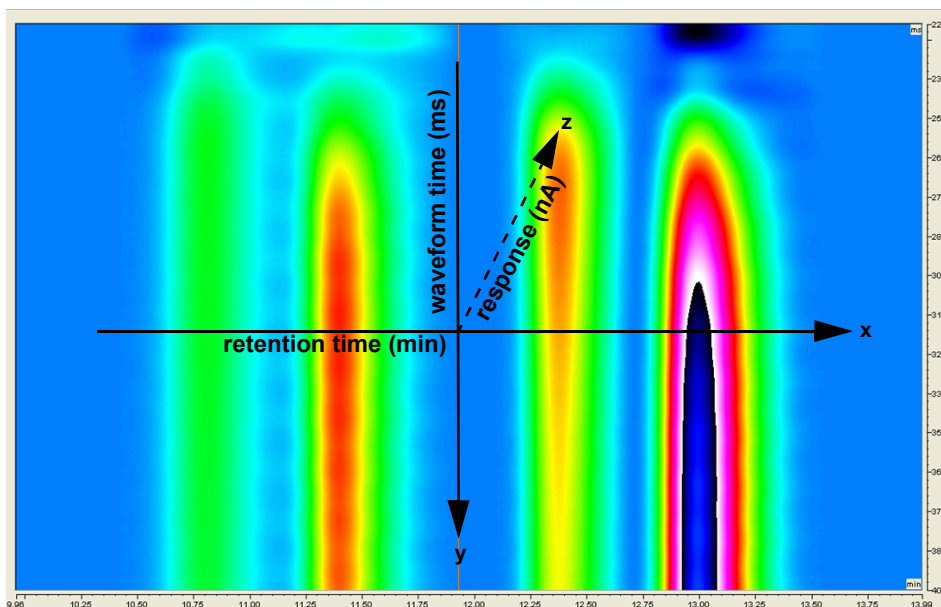

Figure 2-33. 3D Amperometry Data in Chromeleon: Iso View
The Iso view is the default view for the 3D raw data. This is a top down view of the data (imagine you are looking down on the data from above the plot) (see Figure 2-33). The x-axis is the retention time (min) and the y-axis is the waveform period (ms). The z-axis, which is not visible on the plot, is the response (nA).
**NOTE** The 3D data shown in Figures 2-33 through 2-36 was collected using an analytical waveform (see “Analytical vs. Scanning Waveforms” on page 67).